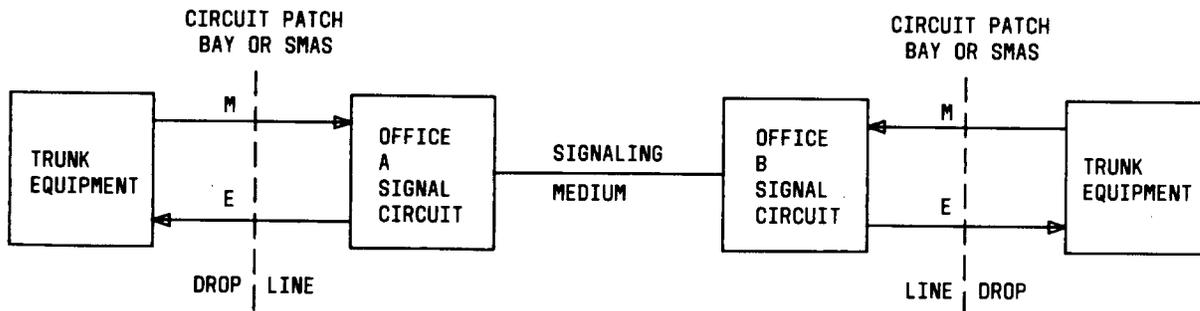

Fig. 4—E&M Signaling
**4.02** For many circuits where range extension is desired, or a complete dc loop is not available (as in carrier facilities), derived dc signal paths are used. In these cases the signaling path is usually derived from the transmission path. Supervision and addressing may be converted to special signaling lead called E&M leads. The state of the M lead at the originating end determines the state of the E lead at the terminating end. And, the state of the M lead at the terminating end determines the state of the E lead at the originating end. (See Fig. 4) Therefore full two-way (duplex) signaling is provided. E&M convention is as follows: